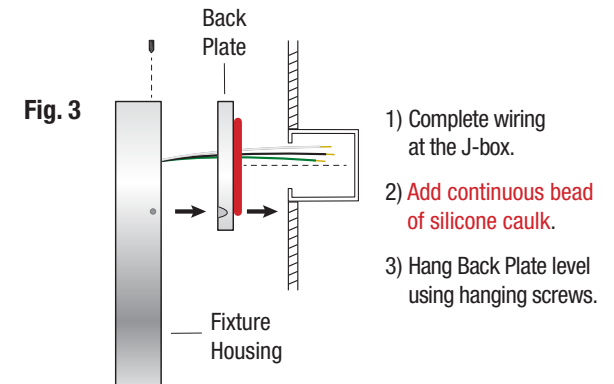

Fig. 3
4. Remove fixture from wall and feed wires from fixture through Mounting Plate and into J-box. Complete all wiring at J-box. **Fig. 3**
6. Secure the Mounting Plate to the wall with hanging screws in the previously mark positions, while keeping the fixture level. **Fig. 3**
3. Fasten Flex Cable with wiring to Conduit Coupling and tighten set screw. **Fig. 3**